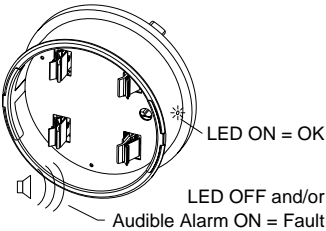

Figure 2: Diagnostic Operation
- LED ON = OK. (see Figure 2)
- LED OFF and/or Audible Alarm ON = Fault. (see Figure 2) Check line voltage and connections. If OK, replace unit.